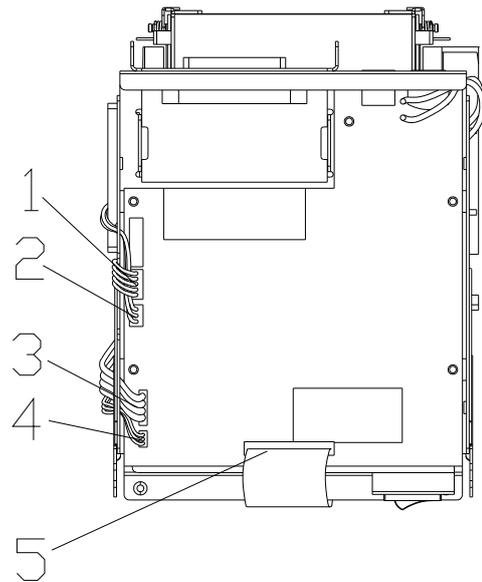

Figure 5-8
Step2. Pull out the baseplate cover adown, overturn it, you can see the connected condition between main board and other parts shown in Figure 5-8.